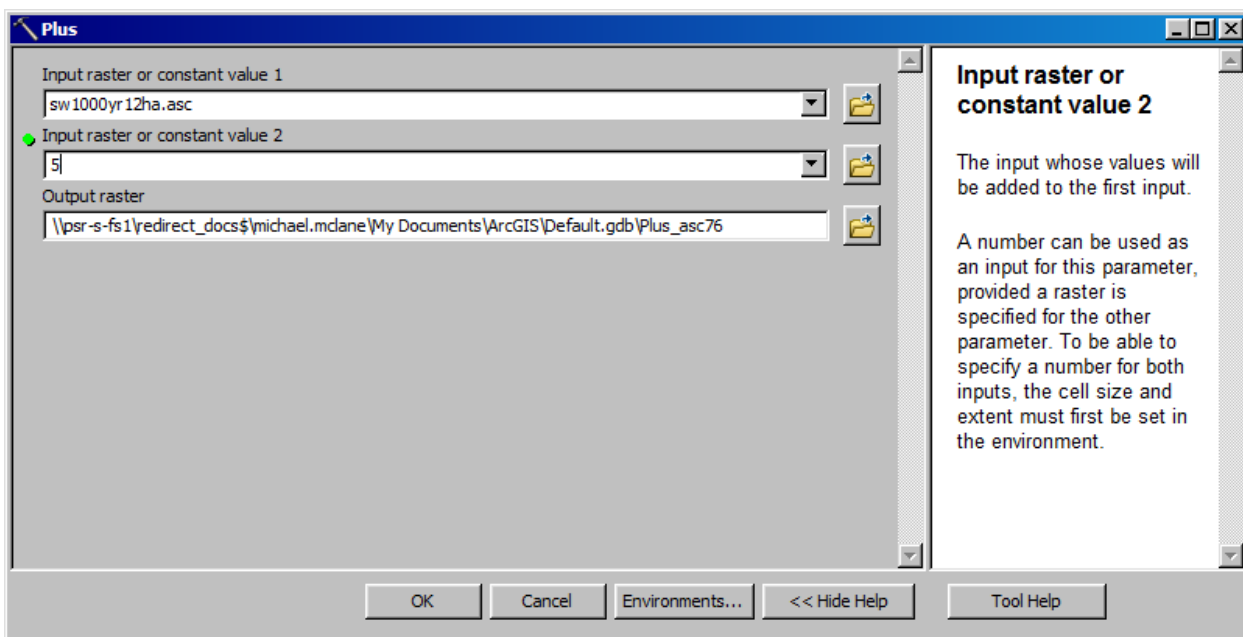

Figure 4 – Using the ArcToolBox Plus Tool
- a. **Add 5** to each grid using the Plus tool. This map algebraic process is going to create a new temporary grid. The new grid is only going to be used as input for the next step so you do not need to change the default output grid name provided by the tool. See figure 4 below.